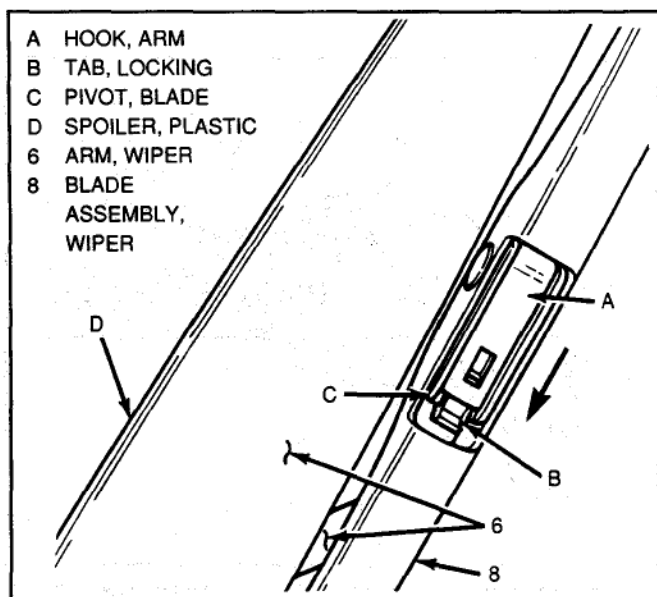

Figure 12 – Wiper Blade Assembly Removal
Figures 12 and 13
1. If wiper arms have not been removed, lift wiper arm (6, Figure 12) until it locks into service-up position.
- Use care when removing or installing a blade assembly (8). Inadvertent bumping can cause the wiper arm to toggle back and strike the windshield.